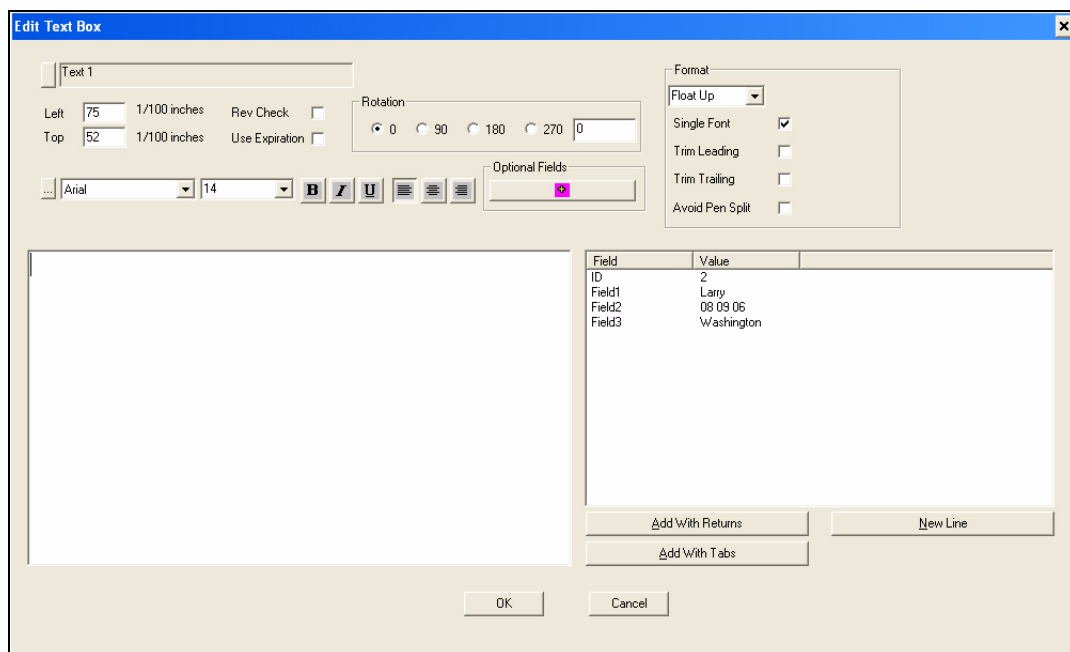

Figure 4-12: Edit Text Box
- 3 Click and drag the crosshair to the right and create the text box. The *Edit Text Box* screen appears (see Figure 4-12).